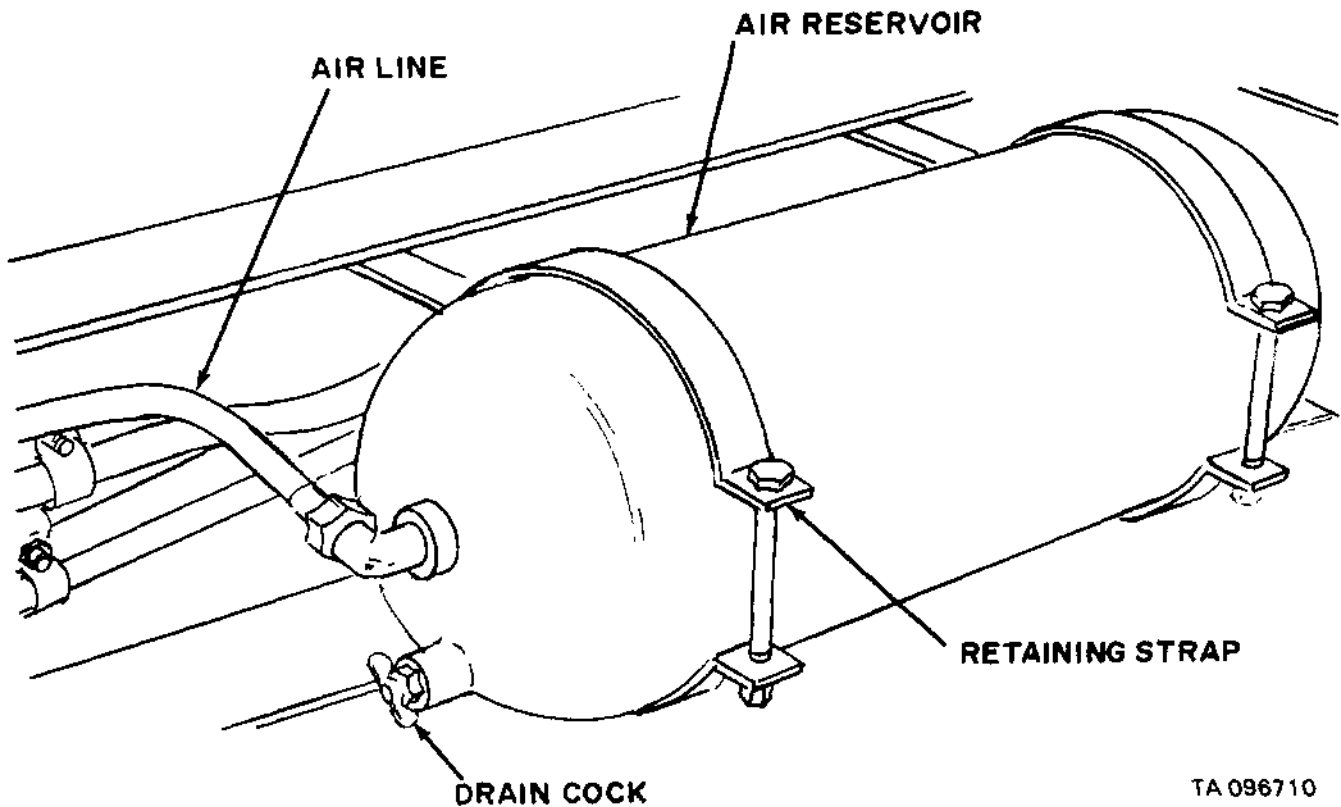

Figure 2-5. Air reservoir drain cock.
(1) Make certain air reservoir drain cock is closed (fig. 2-5).
(2) Open two air shutoff valves on towing vehicle to pressurize semitrailer air system.
#### 2-8. Air Reservoir Drain Cock (fig. 2-5)